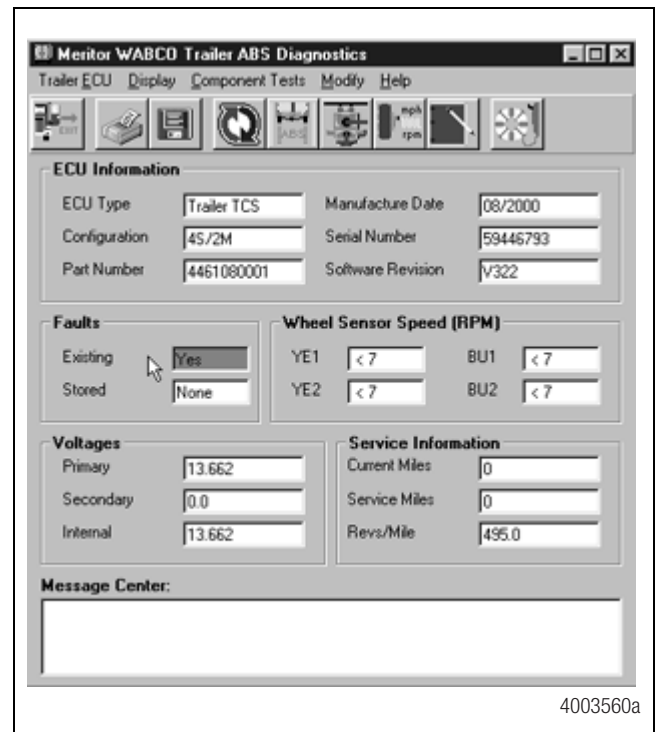

Figure 30
- Apply 12 volts DC to the blue wire (constant). Check the screen for the correct voltage (9.4 to 14 volts). Constant power voltage is displayed in the **Primary** field. Figure 30.
- Apply 12 volts DC to the red wire (stoplight power). Check the screen for the correct voltage (9.4 to 14 volts). Stoplight power voltage is displayed in the **Secondary** field. Figure 30.